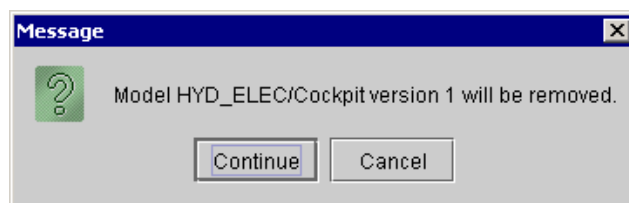

Figure 89 : Equipment destruction message
- Select the **Model ... → Remove** command; a *Message* window (Figure 89) is then displayed indicating that the equipment is going to be destroyed;